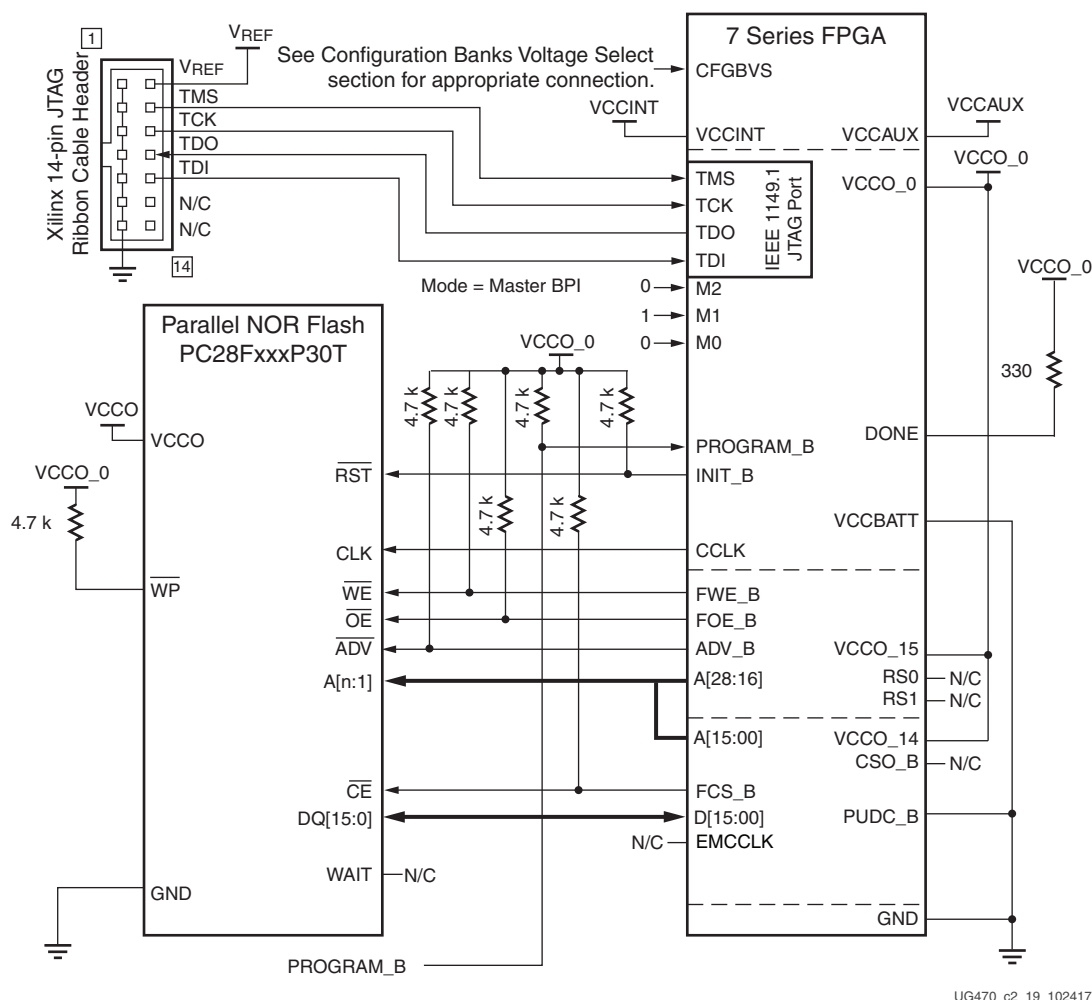

Figure 2-20: 7 Series FPGA Master BPI Configuration Interface Synchronous Read Example
The 7 series FPGA Master BPI configuration mode can optionally read a bitstream from select BPI devices that support burst, synchronous read mode as illustrated in Figure 2-20 and described in Synchronous Read Mode Support, page 59. A BPI device that supports the synchronous read mode latches a given start address from the FPGA into its internal address counter. Then given a clock, the flash outputs data from the next sequential address location to its data bus during each clock period. In the synchronous read mode, a BPI device can deliver data many times faster than through its asynchronous read interface. Refer to the specific FPGA for the number of address signals available that determine the maximum flash density supported for configuration.
Notes relevant to Figure 2-20:
1. The 7 series FPGA synchronous read mode requires a few additional connections over the asynchronous mode. The FPGA CCLK must be connected to the flash CLK signal and the FPGA ADV_B must be tied to the flash $\overline{\text{ADV}}$ signal. This setup shown in Figure 2-20 supports the FPGA powering up initially in asynchronous mode and then switching over to synchronous mode.
6. Only the x16 data width shown in Figure 2-20 is supported by the synchronous read mode.
8. The RS[1:0] pins are not connected as shown in Figure 2-20. These output pins are optional and can be used for MultiBoot configuration. See Chapter 7, Reconfiguration and MultiBoot.
11. The FPGA mode (M[2:0]) pins are shown set to Master BPI mode (010). The implementation of a board-level option that enables the user to change the FPGA mode pins to JTAG mode (101) is recommended to enable JTAG-based debug capability for the FPGA during design. This is not required, but the JTAG mode setting ensures that there is no interference from the Master BPI configuration during debug.